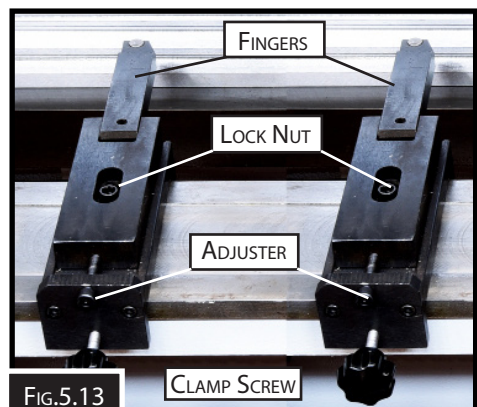

FIG.5.13
6. Touch on the X to ensure the X Set axis value is shown. Compare "X" Value with the measured X axis position from the back guage finger tip to the center of the Die V, to adjust enter actual measured value. (Fig 5.13)
5. Once the height of the fingers has been set and the fingers have been moved to the position required, then final adjustment if required can be made to make sure that both fingers are the same distance from the die. If required the fingers can be moved in or out by loosening the lock nuts and using the adjust to move the fingers. Once in position re-lock the lock nut. (Fig.5.13)